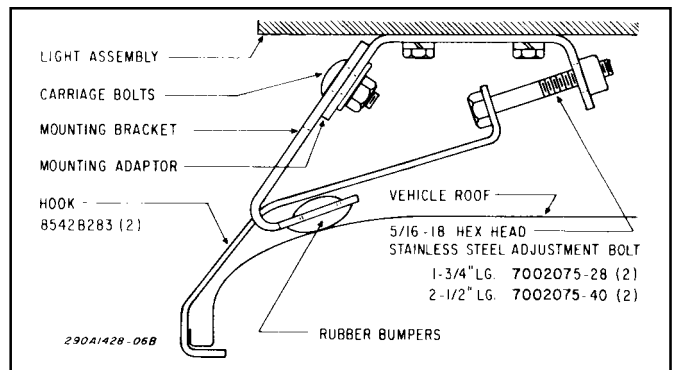

Figure 8.
2. Adjust both mounting bracket assemblies in or out until the rubber bumpers rest near the edge of the roof or gutter where the roof is most rigid (see figure 8).
4. See figure 8. Insert the hook into the opening in the center of the mounting bracket. Install the 1-3/4" or 2-5/8" stainless steel adjusting bolt (finger-tight). Repeat step on other side of Light Assembly.